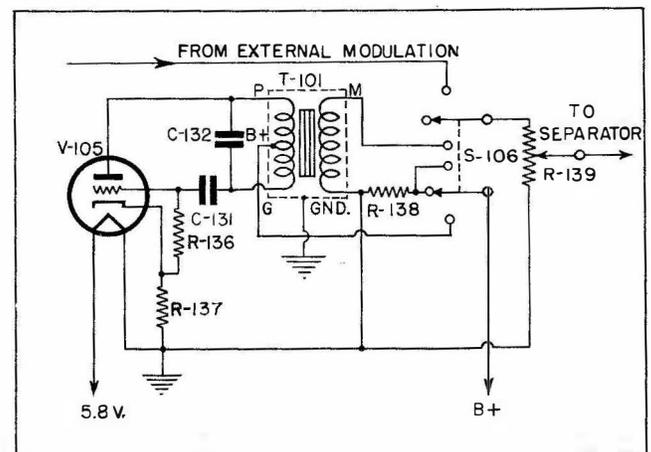

Figure 4-3—Schematic Diagram of the Modulation Oscillator
a. The Modulation (A.F.) Oscillator uses a conventional Hartley-type circuit. The circuit is shown schematically in Figure 4-3.